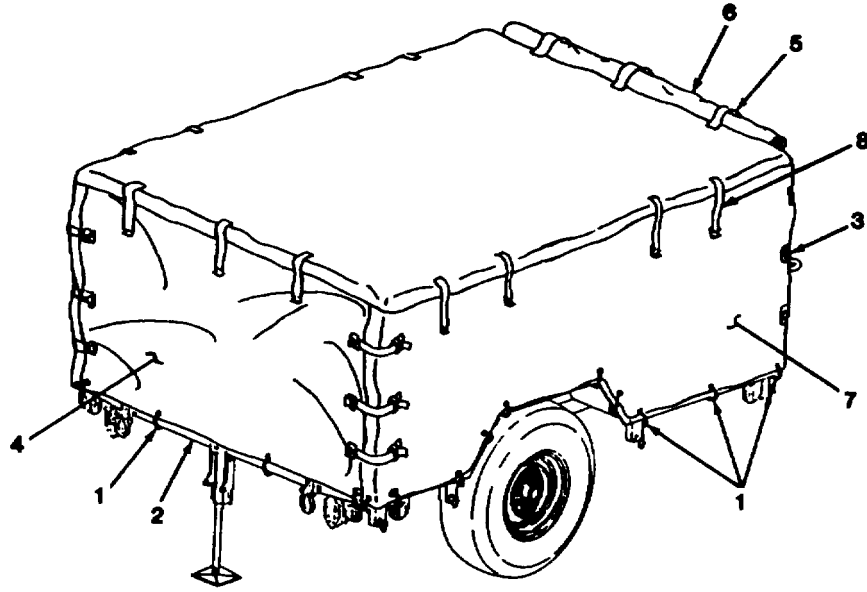
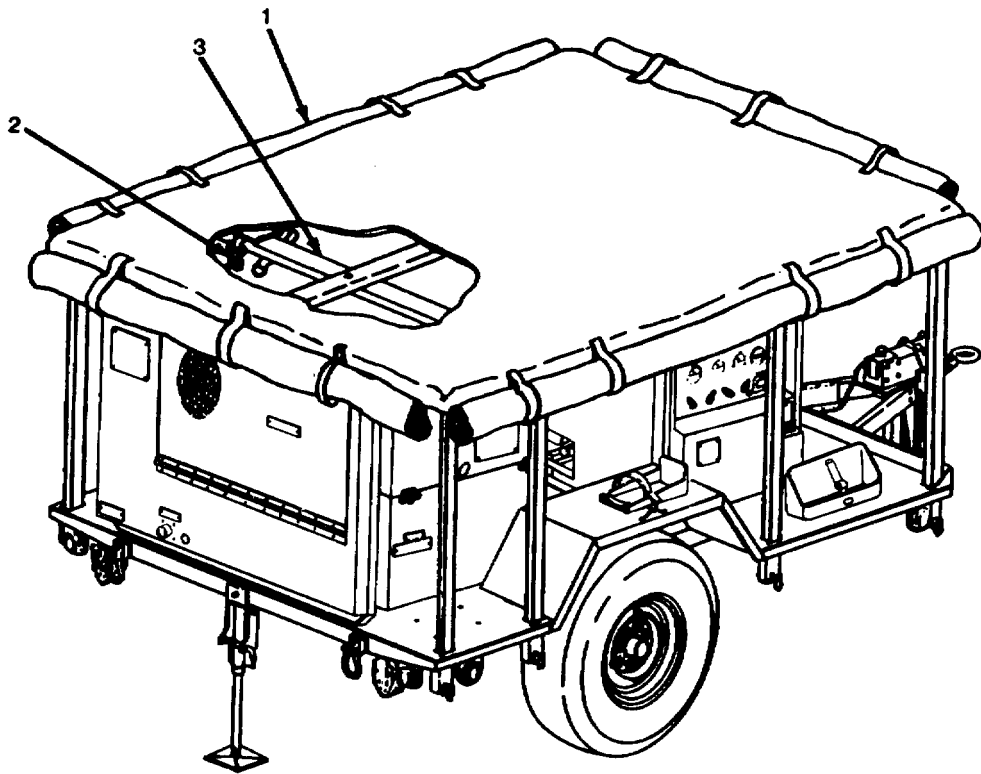

Figure 3-1. Tarpaulin Installed on AN/MJQ-33.
Figure 3-2. Tarpaulin Rolled Up for Removal on AN/MJQ-33.
a. Tarpaulin Replacement. (See Figures 3-1 and 3-2.)**(1) Removal.**
- (a) Untie 25 ropes (1, figure 3-1) fastening tarpaulin to trailer body (2).
- (b) Unfasten six straps and buckles (3) securing rear curtain (4). Roll up curtain, and secure with three roll-up straps (5) provided.
- (c) Unfasten six straps and buckles (3) securing front curtain (6). Roll up curtain, and secure with three roll-up straps (5) provided.
- (d) Roll up each side (7) of tarpaulin, in turn, and secure each side with four roll-up straps (8) provided.
- (e) Working under tarpaulin (1, figure 3-2), unfasten eight straps (2) securing tarpaulin to bow assemblies (3). Remove tarpaulin.
(2) Installation.**NOTE**
- (a) Position tarpaulin (1, figure 3-2) on top of bows (3) making certain front of tarpaulin is at front of trailer.
- (b) Secure tarpaulin (1) to bow assembly (3) with eight straps (2) provided.
- (c) Unfasten roll-up straps (8, figure 3-1) securing sides (7) of tarpaulin and lower both sides.
- (d) Unfasten roll-up straps (5) securing front and rear curtains (4, 6) and lower both curtains.